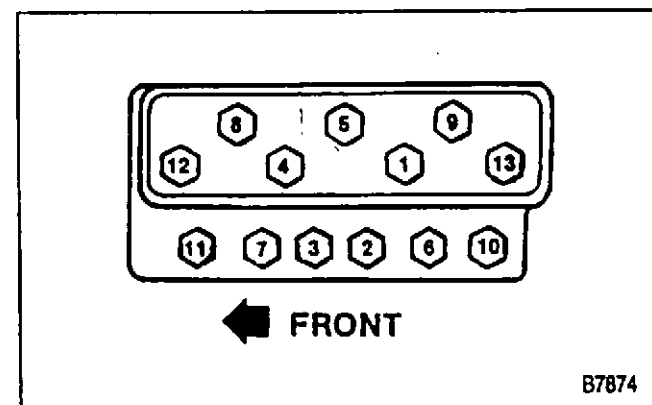

Figure 45—Cylinder Head Bolt Tightening Sequence
Install or Connect (Figure 45)
- Cylinder head bolts in three steps, using the sequence shown in figure 45.